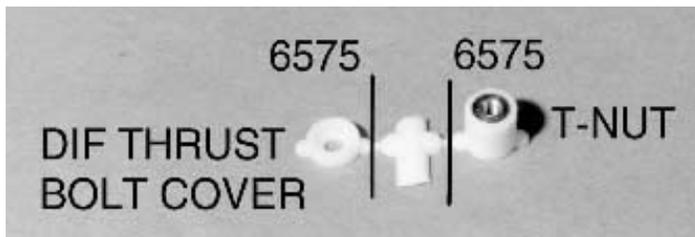
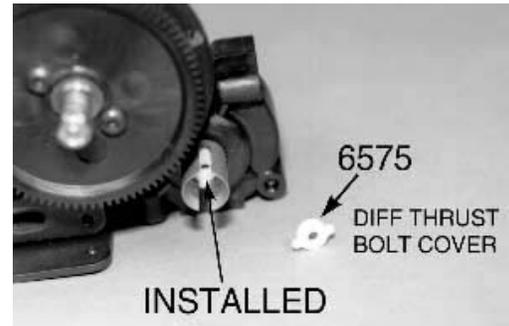

Fig. 46
Fig. 79
□ **Figs. 46, 47, 48 & 49** (1) In bag A you will find the molded #6575 T-nut and diff thrust bolt cover (see fig. 46). (2) Trim the two parts from the nylon runner. We will use it near the end of the transmission assembly. **WARNING! Make certain that you do not cut off the "ears" on the T-nut or the thrust bolt cover. The ears are needed to prevent the parts from spinning freely in the outdrives.** For now set the diff thrust bolt cover aside; we will use it near the end of the transmission assembly.
(3) Now remove the #6582 diff thrust spring and the #7668 left diff outdrive hub (the one with the small nipple on it) from the same bag A. **WARNING!! Please make sure you do not get the #6582 diff thrust spring mixed up with the #6587 torque control spring (from bag E) used later during the assembly. The torque control spring has a slightly larger outside diameter and will jamb inside the diff outdrive hub if forced in.** Now check to make sure that there are no burrs or residue on the inside or outside, of the
□ **Fig. 79** Back in fig. 46 we set aside the #6575 nylon diff thrust bolt cover (looks like a thin version of the #6575 T-nut without the steel insert). We are now going to install this into the right (passenger side) diff outdrive. This is used to cover the head of the diff bolt and to help keep dirt out of the thrust bearing assembly. It still allows you to check your diff adjustment without taking the cover out each time.